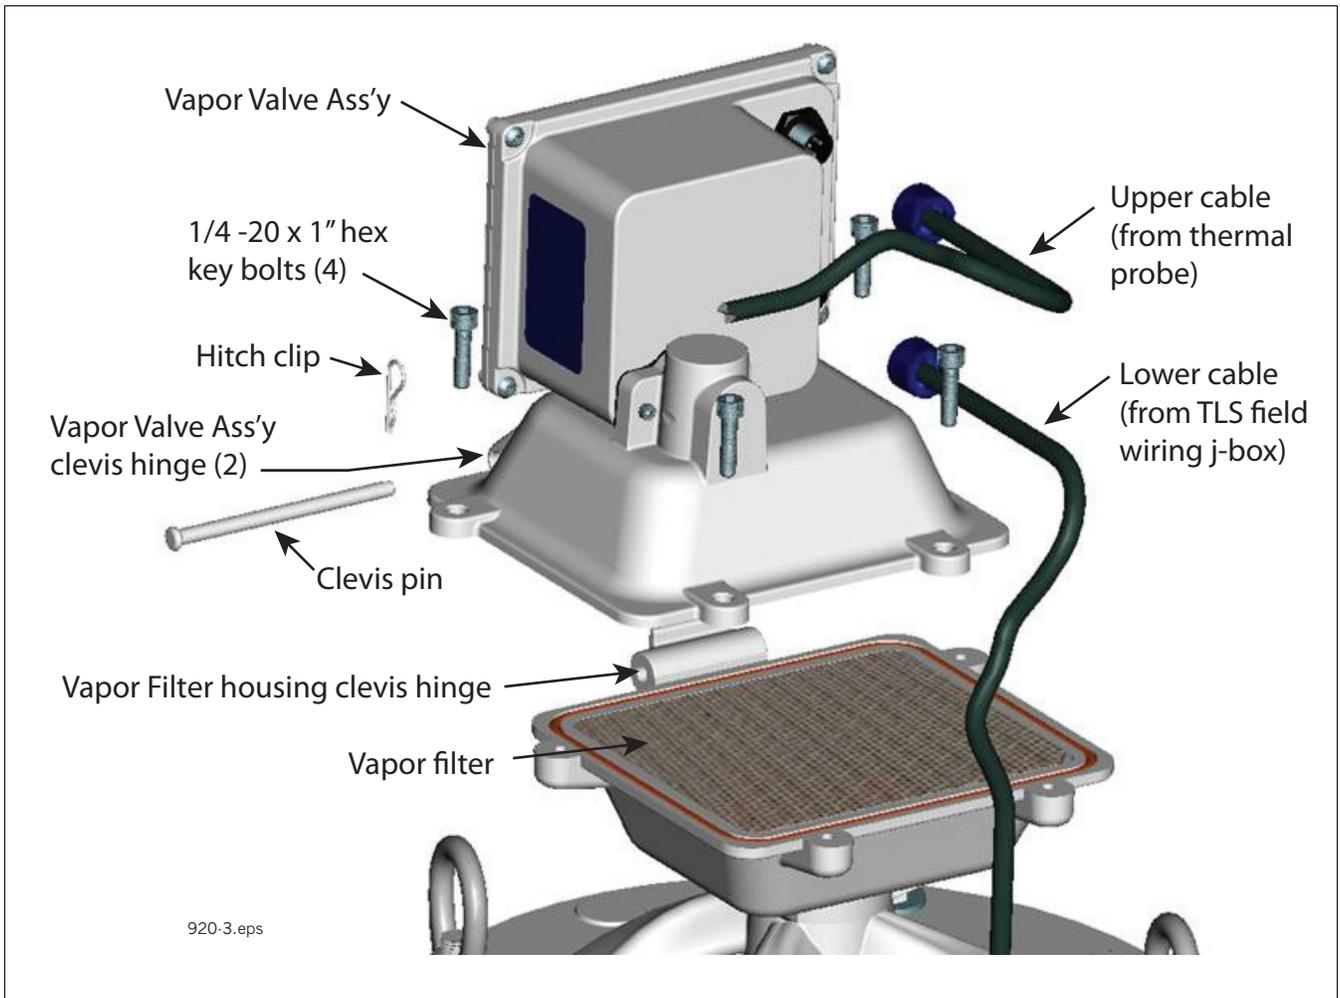

Figure 14. Replacing Vapor Valve assembly
3. Remove the hitch clip from the long clevis pin in the front hinge of the Vapor Valve Assembly and Vapor Valve Filter housing (see Figure 14).